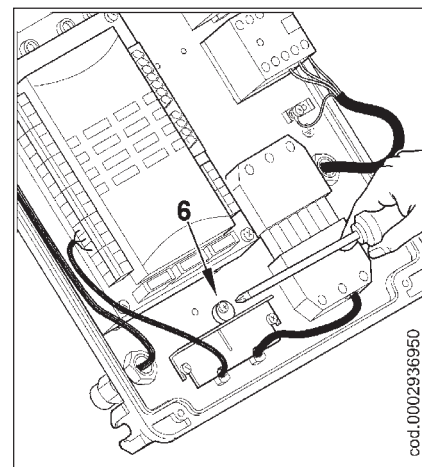

Fig. 3
- Reposition the cable clamp plate (fig. 3). Turn the cam (4) so that the plate exerts sufficient pressure on the two cables, then tighten the screws that fasten the plate. Finally connect the 7 pole plug and the modulation control cables.